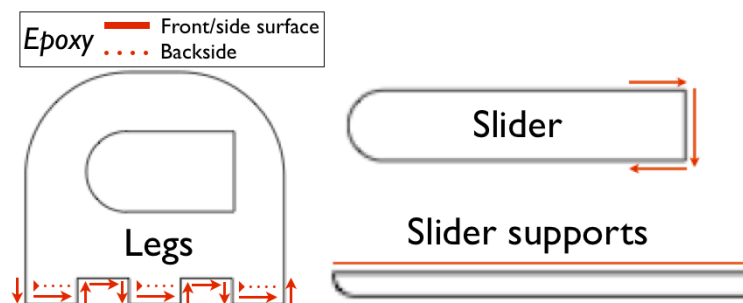

Figure 3. Epoxy placement for chassis parts
- e. Review where you will spread the epoxy, as depicted below \(Figure 3\).